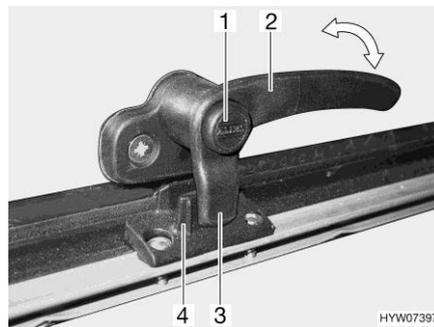
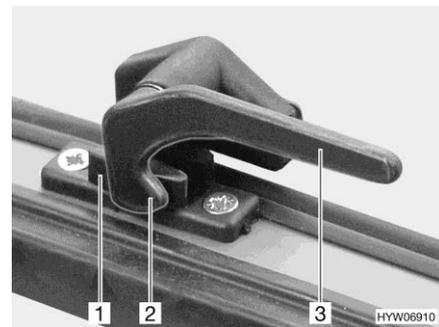

Fig. 93 Catch lever with safety knob in "closed" position
Fig. 94 Catch lever in "closed" position
- Press and hold the security button (Fig. 93,1), if present.
- Turn the catch lever (Fig. 93,2 or Fig. 94,3) a quarter turn towards the centre of the window.
- Turn the catch lever (Fig. 93,2 or Fig. 94,3) a quarter turn towards the window frame.
- The locking catch (Fig. 93,3 or Fig. 94,2) on the catch lever is entirely on the inner side of the window catch (Fig. 93,4 or Fig. 94,1).
- "Firmly closed" (Fig. 93 and Fig. 94)